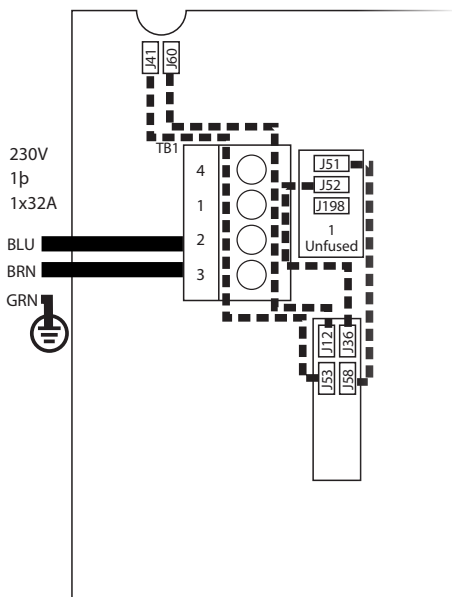

Figure 1
AS MANUFACTURED – SINGLE SERVICE (Figure 1)
1. Remove all jumper wires as indicated by dotted lines in Figure 1 (previous page).
- 1. Remove all jumper wires as indicated by dotted lines in Figure 1 (previous page).